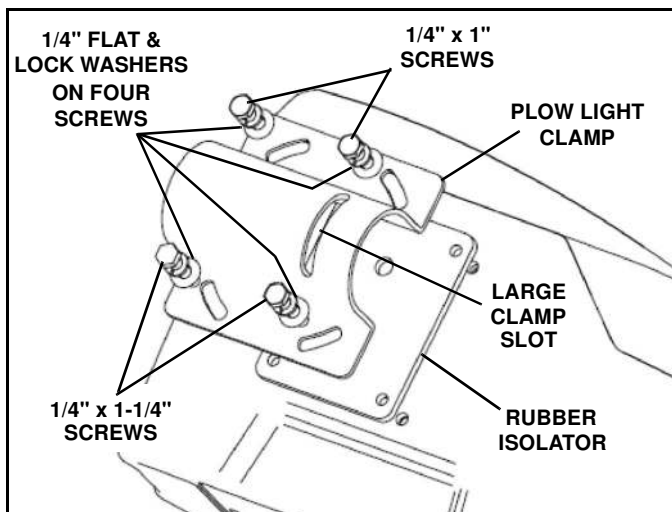

Figure 1-11
19. Position a plow light clamp and rubber isolator on the bottom of each plow light, aligning the corner slots in the clamp with the four holes in the isolator and light housings (See Figure 1-11).